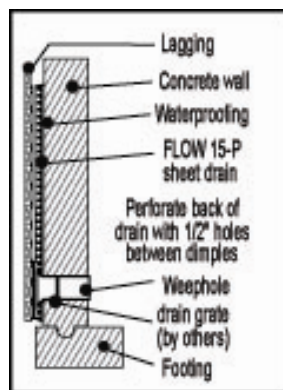

FIGURE 2
**SHORING WALLS - (see Figure 2)** Place drain with fabric side toward soil to be drained. Cut 1/2" diameter holes on flat back of core at discharge pipe location. **DO NOT CUT FABRIC.** Concrete or gunnite/shotcrete may be placed directly against the core side of the drain.